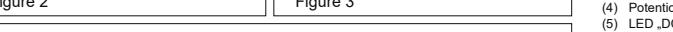

Figure 3
3. Mounting and dismounting (Fig. 2, Fig. 3)